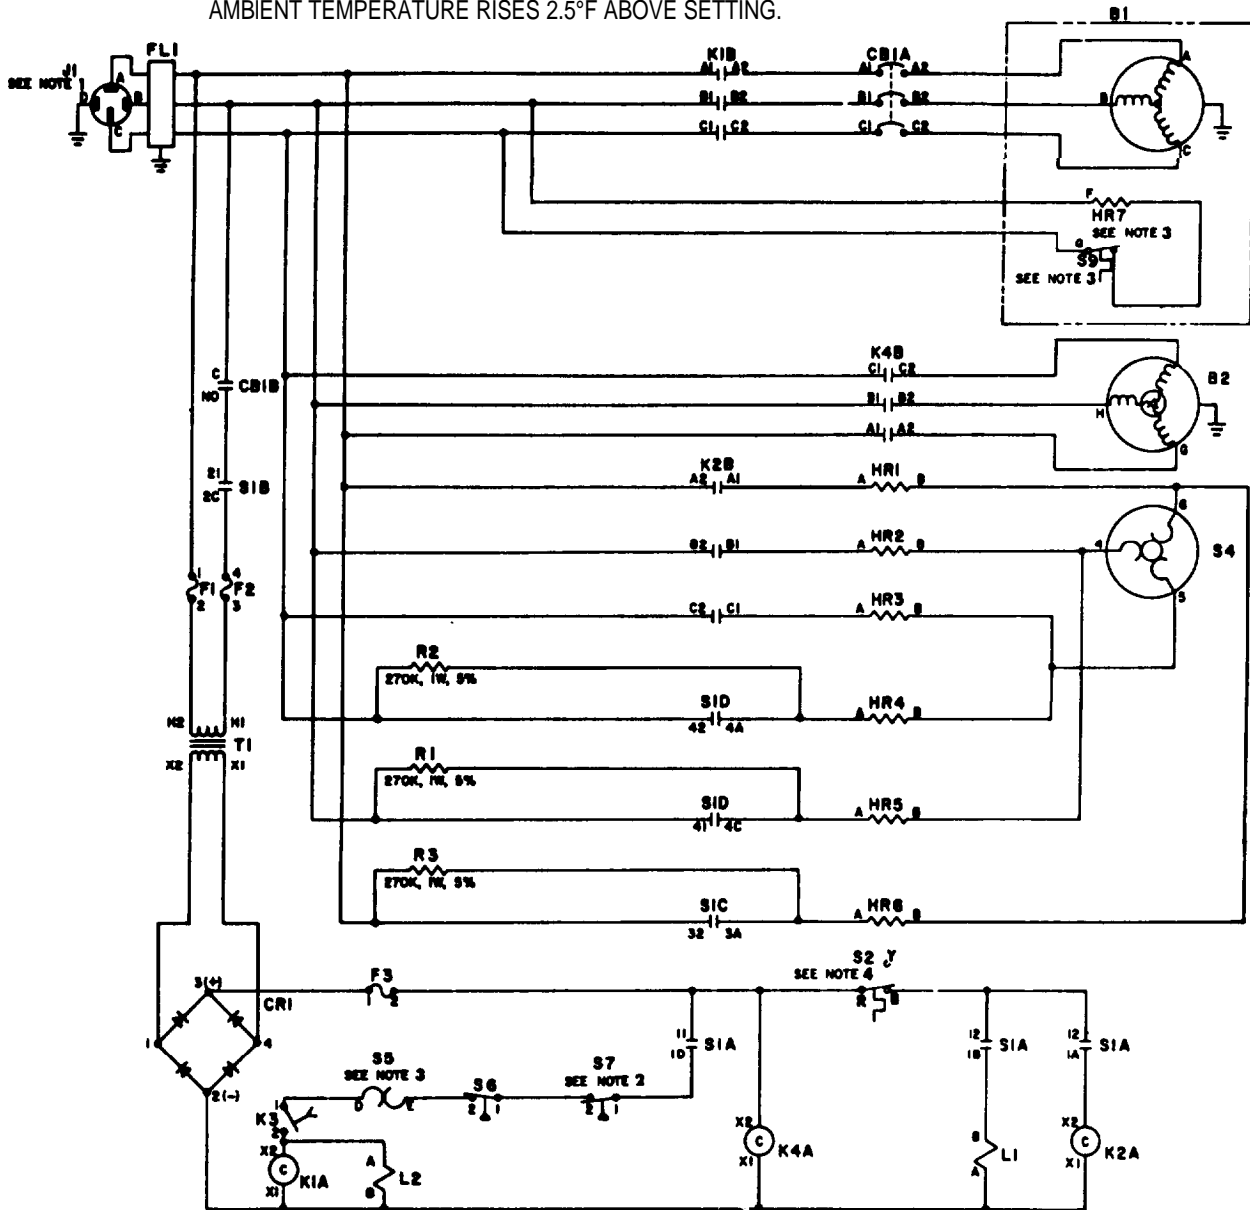

Figure 4-24. Electrical Schematic
(6) The person at control panel should turn mode selector switch to VENT and immediately back to OFF.
(7) The person at rear of unit should watch condenser fan to determine direction of rotation. Fan blades must turn toward grille.
(8) If fan blades turn away from grille, unit power cable is not connected properly. Exchange wires connected to pins A and B at power source connection and repeat steps (6) and (7) above.
(9) Check unit operation in accordance with para 2-6 and 2-7.
i. See air conditioner wiring diagram, figure 4-23, and electrical schematic, figure 4-24, for additional wiring information.